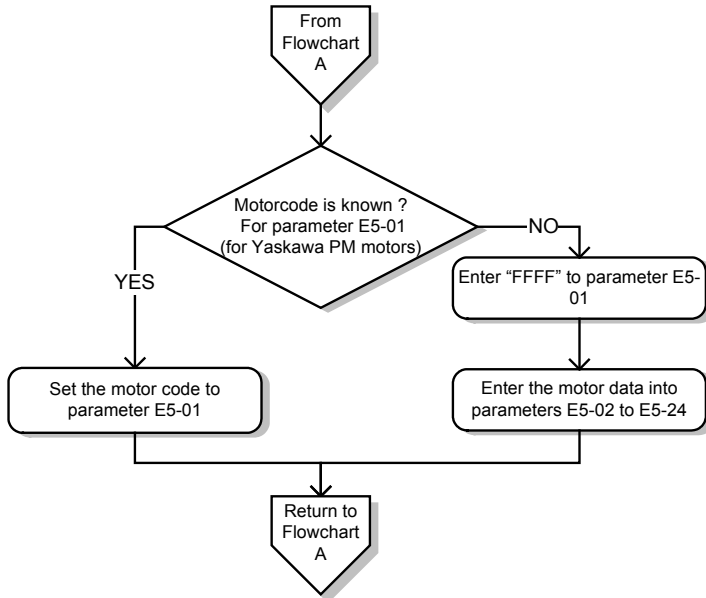

Figure 4.5 Operation with Permanent Magnet Motors
*Figure 4.5*, Flowchart A3, illustrates tuning for PM motors in Open Loop Vector Control. PM motors can be used for energy savings in reduced or variable torque applications.